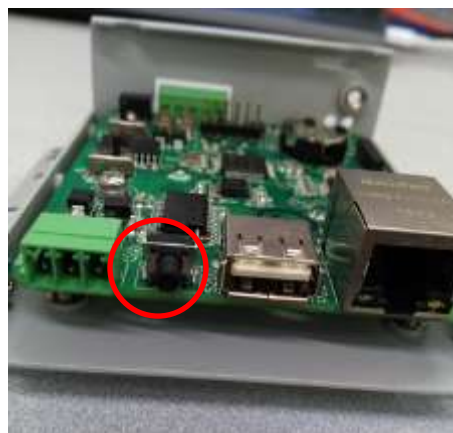

Figure 3-2: Resetting the card
- Once you have logged in, the main page is displayed and shows all the inverters connected to the Ethernet Network Card, as shown in Figure 3-2